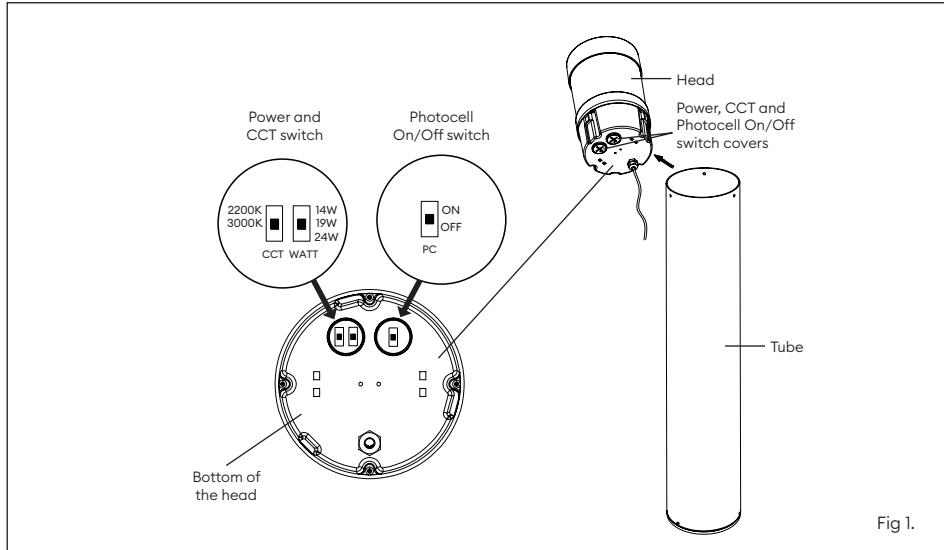

Fig 1.
- Set required power and colour temperature, the switches are located at the bottom of the head (Fig 1). The default settings are 3000K 24W, photocell is set to On (photocell versions only).